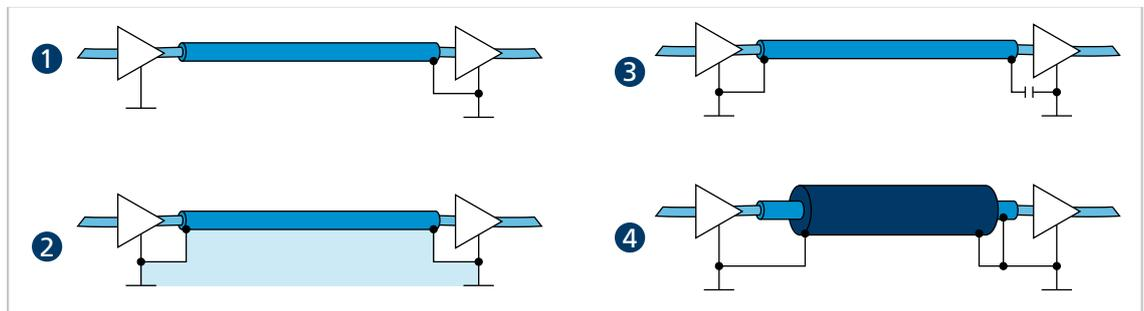

Fig. 15: Various possibilities for the shield connection
- ▶ Lay the motor phases in a shield, separate from the sensor or encoder signals, and connect on at least the motor side (see 1 or 2 in Fig. 15).
The sensor signals can optionally be laid with the motor phases in a shared cable/insulation hose using another outer braided shield. This outer braided shield must be connected at both ends (e.g., 4 in Fig. 15). A solution such as 2 in Fig. 15 is not functional in every case for this configuration. If this is not possible by means of a ground offset, establish the RF connection via specially suited capacitors (e.g., safety capacitors such as Y1/Y2/X1/X2, see 3 in Fig. 15). In this case, do not connect the shield multiple times except at the motor connection and controller side.